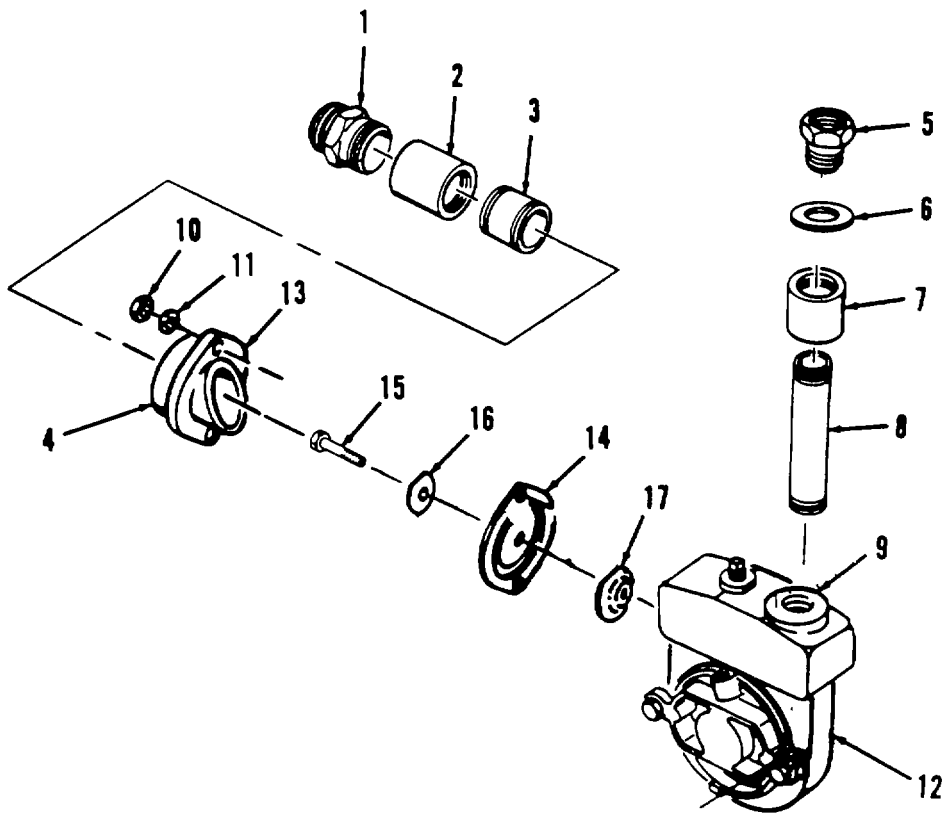

Figure 4-15. Pump Inlet/Outlet Piping Repair and Suction Flange Assembly Repair and Replacement.
a. Removal (Refer to Figure 4-15)
(1) Remove hose adapter (1), coupling (2), and nipple (3) from pump (4) inlet.
(2) Remove hose adapter (5), gasket (6), coupling (7), and nipple (8) from pump (9) outlet.
(3) Remove two nuts (10) and two lock washers (11) from pump assembly (12).
(4) Remove suction flange (13) and gasket (14) from pump assembly (12).
(5) Remove screw (15), check valve weight (16), and check valve weight (17) from gasket (18).